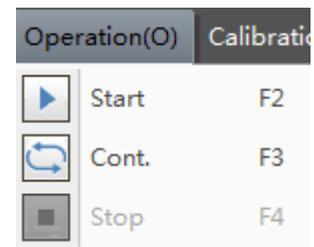

Figure 3.5 Operation Menu
3.2.2 Operation (O)
The drop-down menu of “Operation (O)” is shown in Figure 3.5.